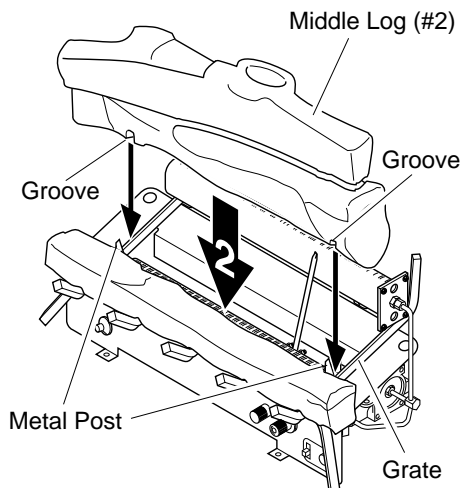

Figure 17 - Installing Middle Log (#2)
2. Rest middle log (#2) behind metal posts on front burner. Make sure the grooves in the bottom of the log fit over the grate. Bring the log forward next to the metal posts. The cutout on the middle log must be on top (see Figure 17).